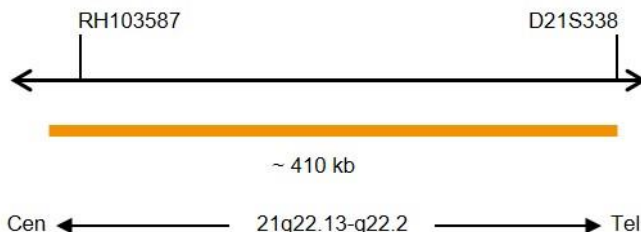

Fig. 1: SPEC 21q22 Probe map (not to scale)
- ZyOrange (excitation 547 nm/emission 572 nm) labeled polynucleotides (~4.5 ng/μl), which target sequences mapping in 21q22.13-q22.2* (chr21:39,372,983-39,784,773) (see Fig. 1).